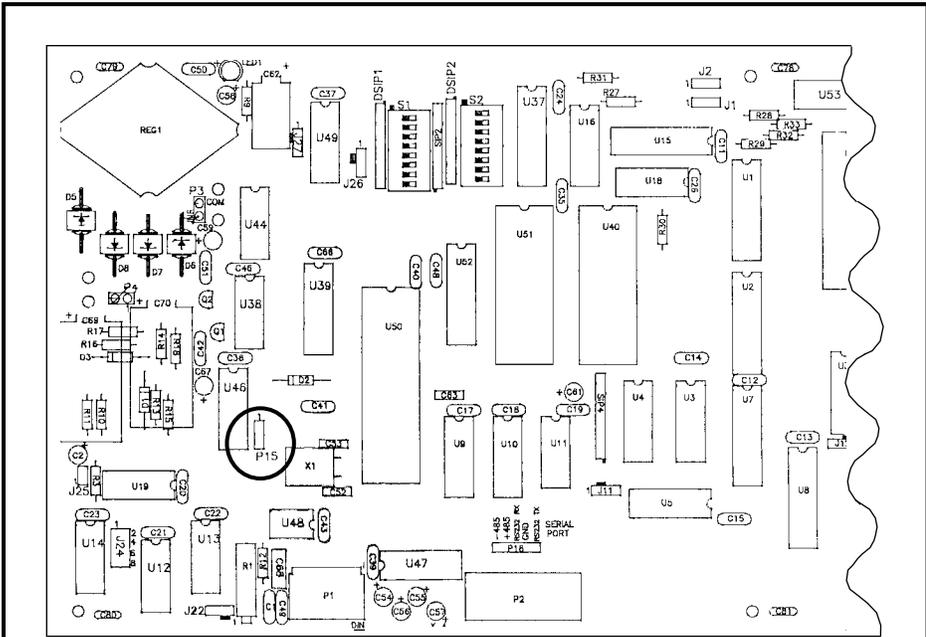

Figure 3-7
2. Locate component P15 on the controller board (P15 is circled in figure 3-7 on the next page.)